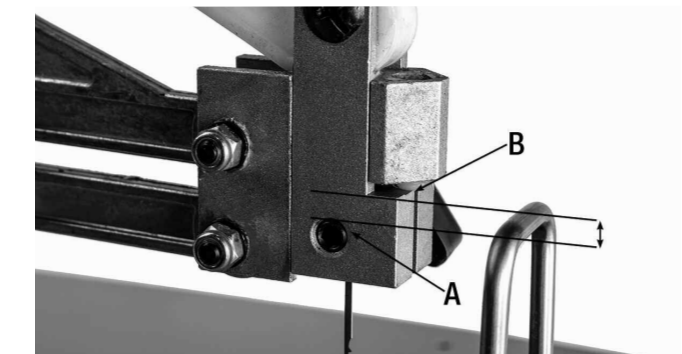

FIGURE 15
- 4) To install a new blade, ensure the teeth are facing forward and down. Slide the top of the blade into the upper blade mount, ensuring that the top of the blade is higher than the set screw (A) Fig.15, but lower than the top of the shoulder of the blade mount (B).
**NOTE:** The blade could be damaged if the set screw (A) Fig.15 is threaded beyond the blade slot. Make sure the set screw is protruding slightly into the blade slot when tightening the blade using the lock knob (C).